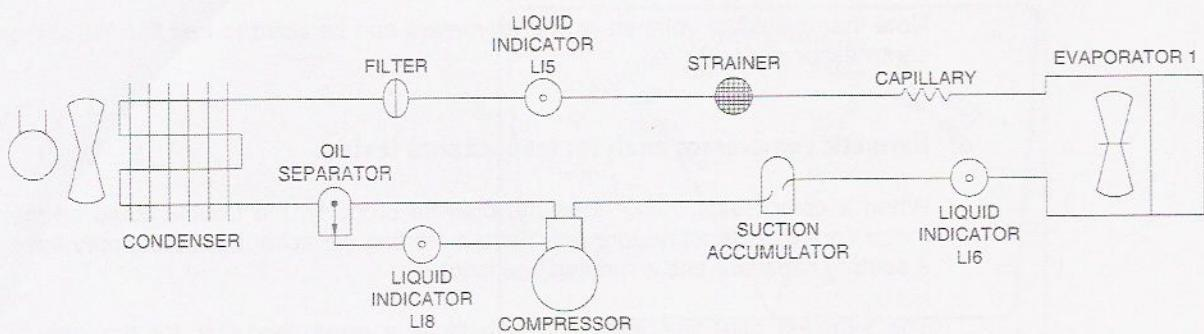

Figure 3-15. Typical refrigeration system.
A schematic diagram of a typical refrigeration system is shown in Figure 3-15. This system will be used to check the power consumption of the compressor motor.
1. Open and close the manual valves to arrange the refrigeration system as shown in Figure 3-15. The trainer's schematic panel (tubing section) shown in Figure 3-16 may be used to assist at this point.